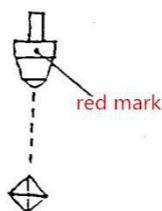

fig17
- (2) In order to ensure the accuracy of the test, the pressure head should be clean. When it is contaminated with oil or dust, it can be dipped with alcohol (industrial) or ether with degreased sponge and wiped carefully and gently at the top of the pressure head.
- (3) There is a red mark on the outer circle of the indentation head. When the indentation head is unloaded and reloaded, the red dot should be in front of the indentation head. At this time, the diagonal intersection of the indentation and the red dot are in line. (See Figure 17)